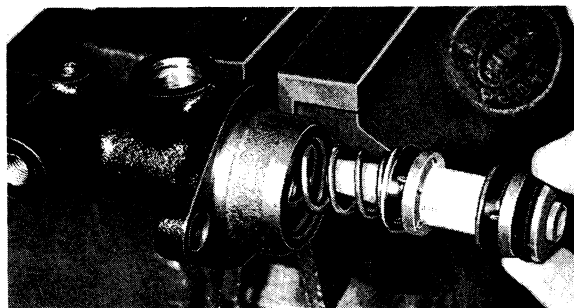

Fig. 5-50. Fitting secondary piston
2. Coat brake fluid on the cylinder and dip the piston and seals in brake fluid before fitting. Fit the spring (1) and spring plate (2) on the secondary piston and fit the piston, see Fig. 5-50. Observe care when inserting the seals in the cylinder.